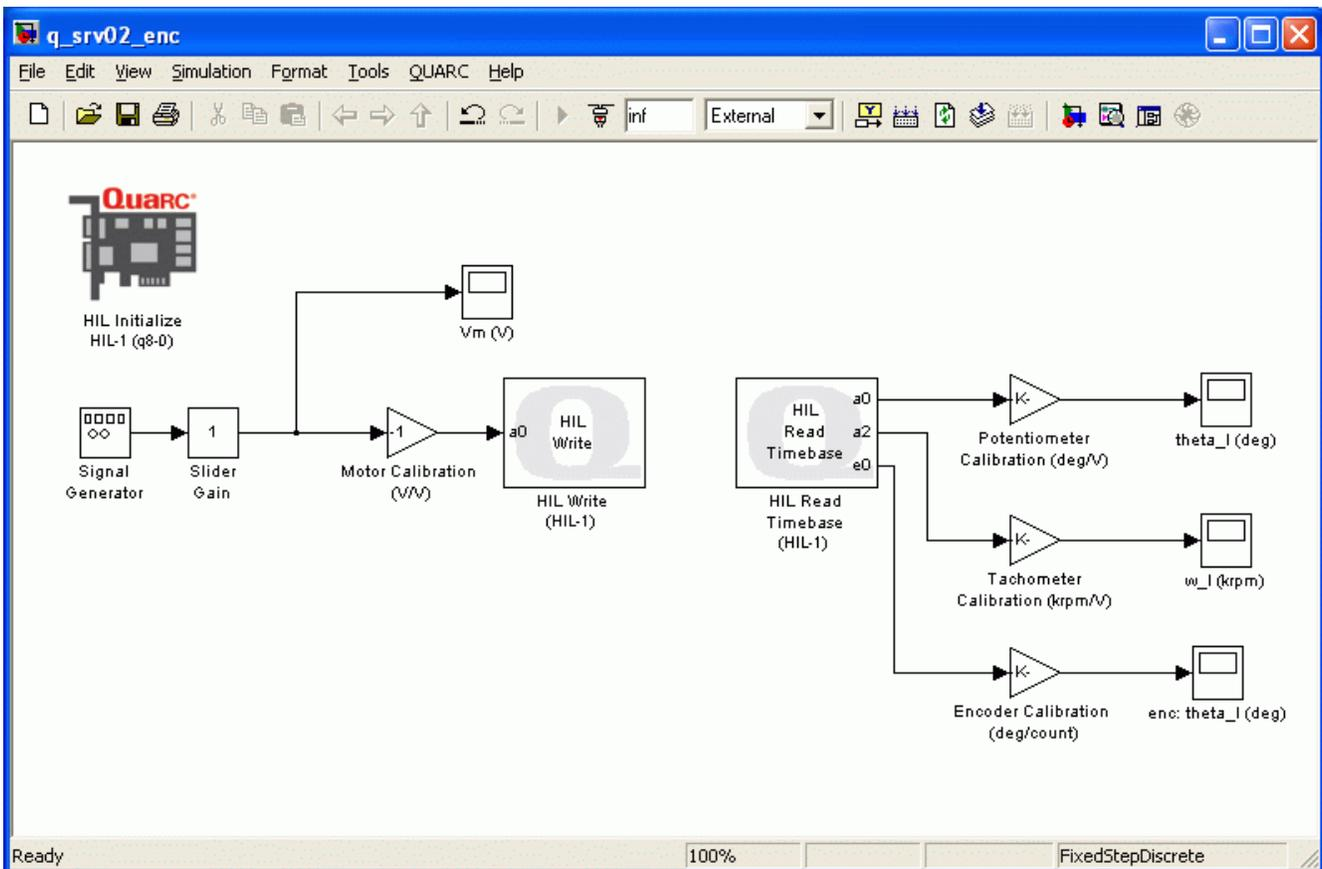
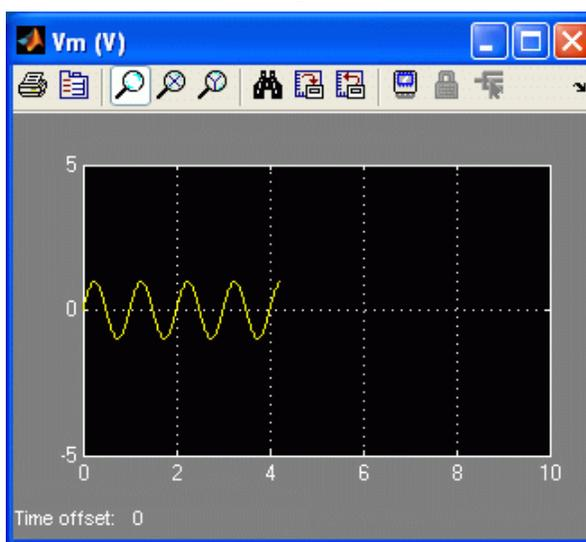
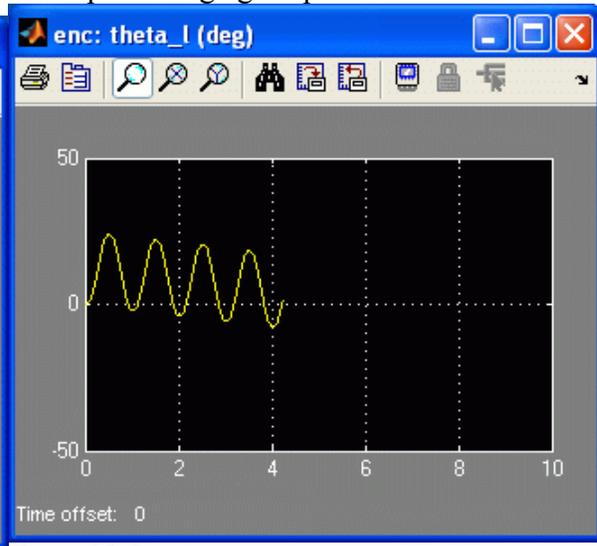

Figure 13: Simulink model used to send voltage to the SRV02 and read its potentiometer, tachometer, and encoder sensors.
Figure 14: Input sinusoidal voltage.
Figure 15: Load gear angle measured with encoder.
The Simulink diagram designed previously is modified to include an encoder measurement, as illustrated in Figure 13 below. Before continuing, please ensure that the SRV02 unit being used has an encoder, i.e. SRV02-E option.
4. Connect the Scope and Gain blocks as depicted in Figure 13, above. Thus connect the Gain block to the output labeled $e0$ of the HIL Read Timebase block and label it *Encoder Calibration (deg/count)*. Then, connect the output of this gain block to the input of the Scope block and label the scope *enc: theta_1 (deg)*. This scope will display the measured angular position of the load gear in degrees.
6. Open the *V_m (V)* and *enc: theta_1 (deg)* scopes.
13. The measurement will be very small. Click on the *Autoscale* icon in the scope to zoom up on the signal or adjust the range of the y-axis manually. The input voltage and position scopes should appear similarly as shown in Figure 14 and Figure 15. Remark that no further calibration is needed: the encoder position increases when the input voltage goes positive.